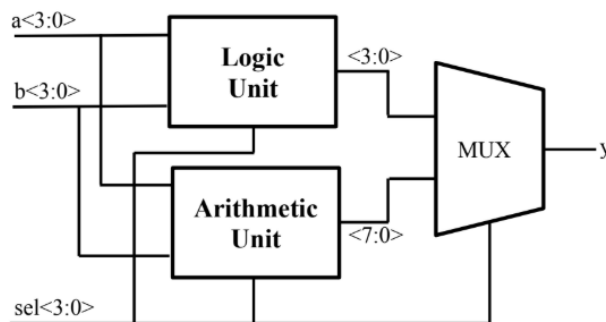

Fig. 1: ALU Block Diagram
- In this project we are required to design an ALU that can do both arithmetic and logic operations, as shown in Figure 1 , it's also required to place flipflops at the input and output of the ALU